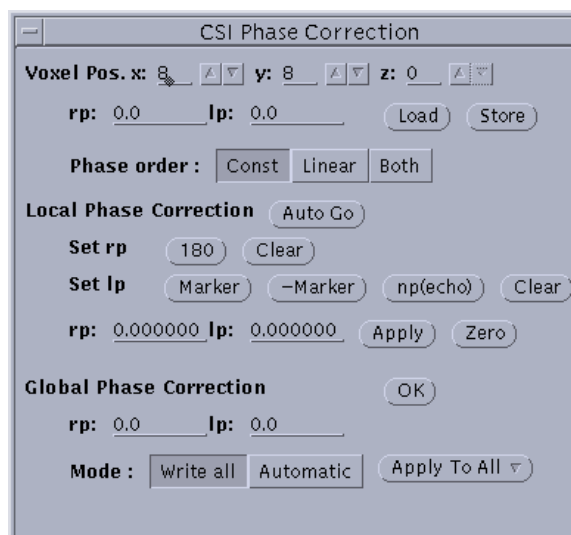

Figure 59. Phase Correction Window
1. Open the Phase Correction window, shown in Figure 59, and select Both in the Phase Order field for Const and Linear phase correction.